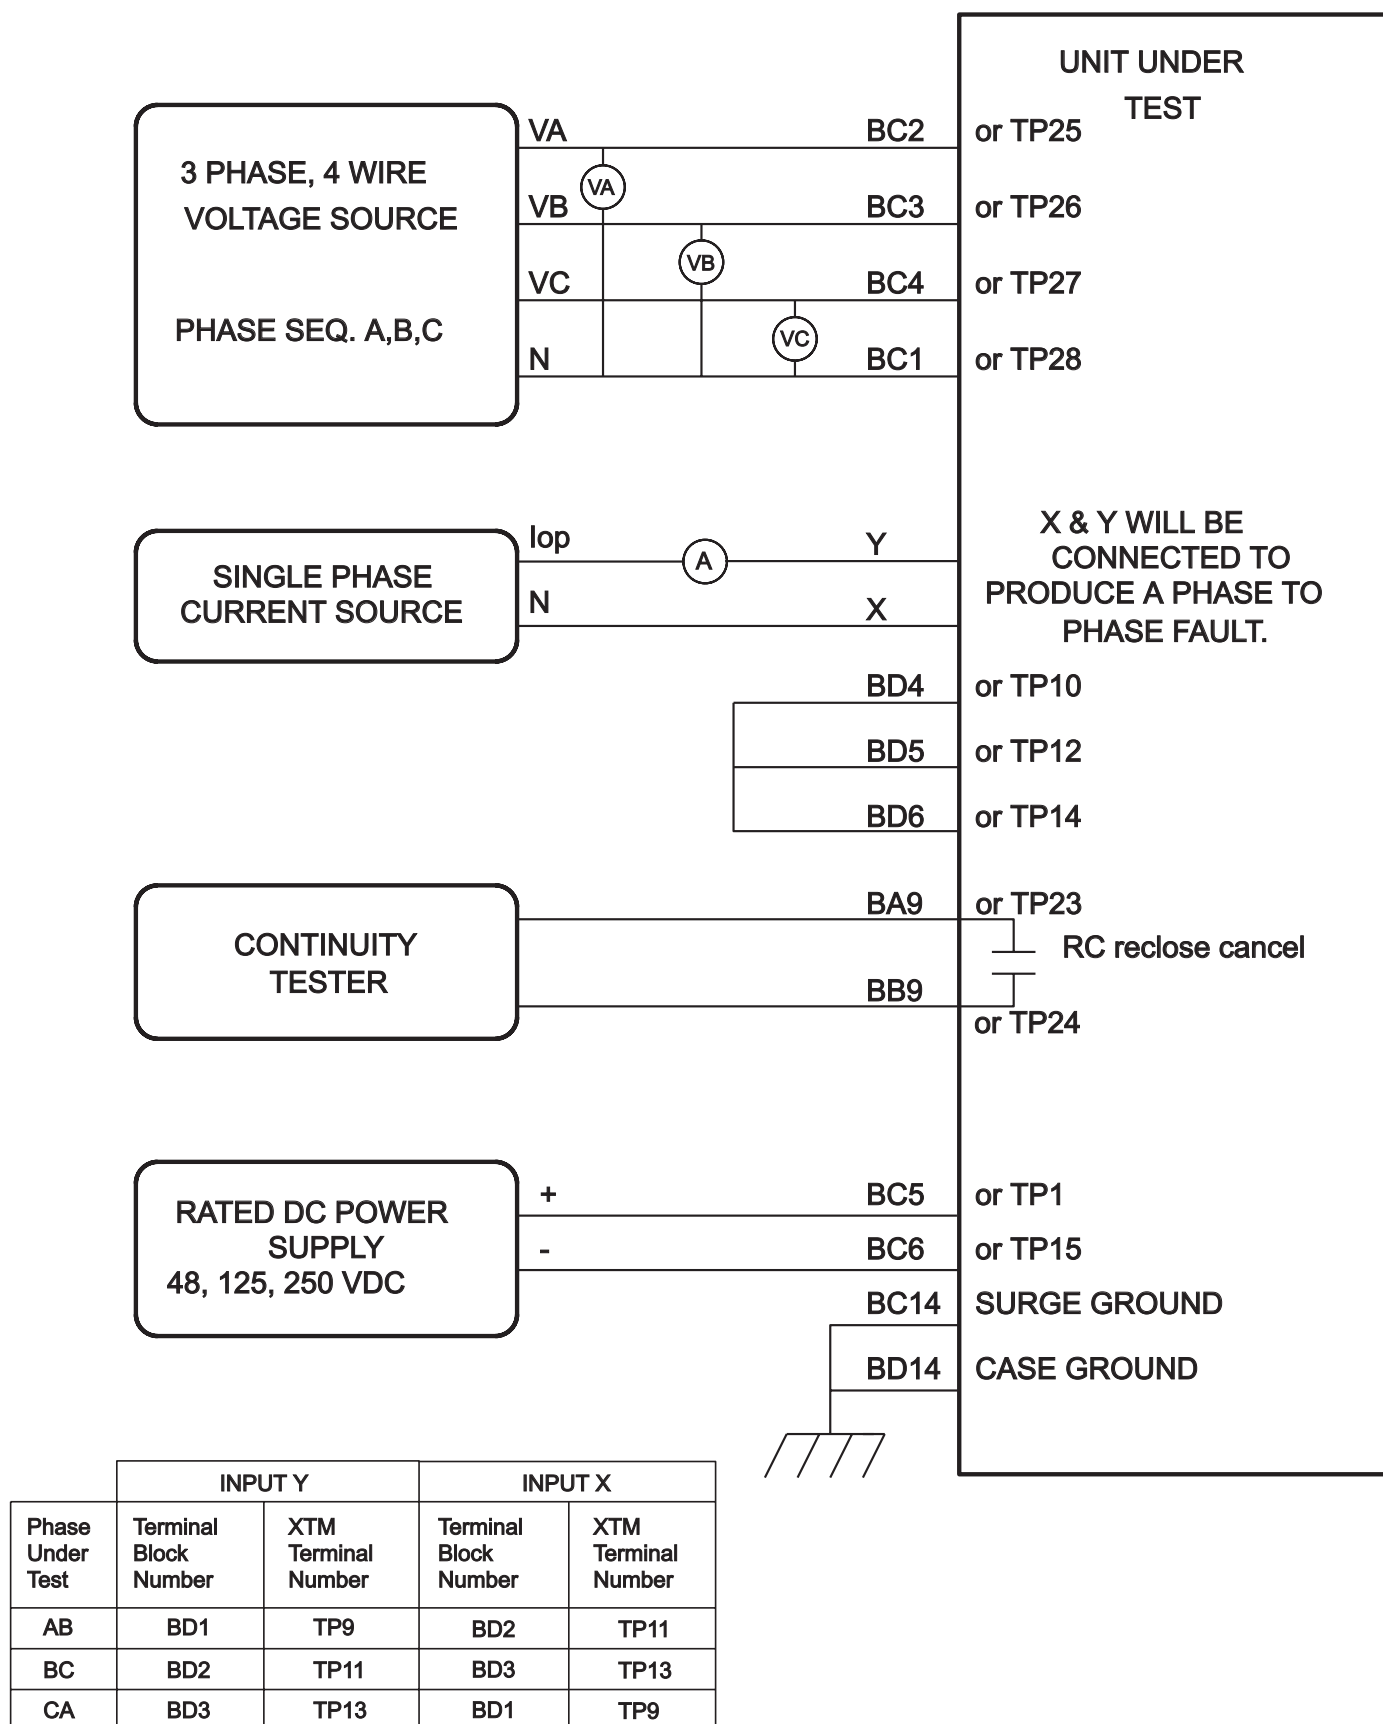

Figure 4–5. (0286A4813, sh. 5).Phase to Phase test connections
2. Connect the relay as shown in Figure 4–4 for the appropriate phase under test.